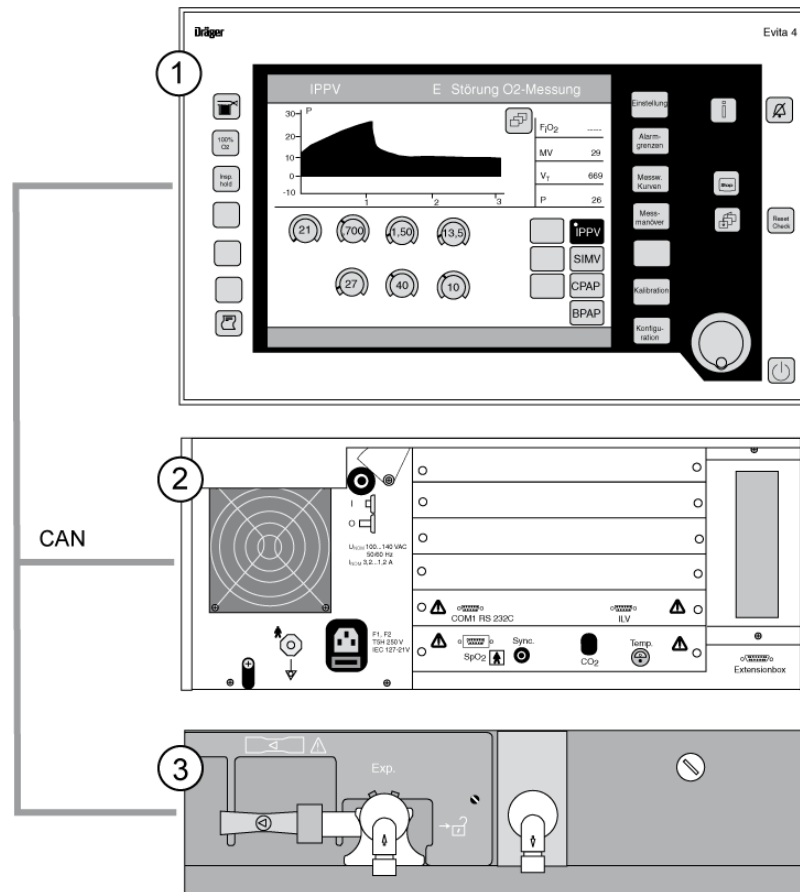

Fig. 1 Basic components of the Evita 4
- Control unit (Fig. 1/1)
- Pneumatics (Fig. 1/3)